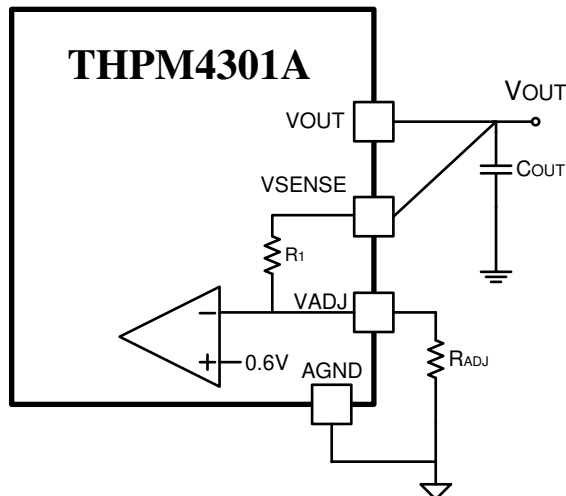

Fig. 15 Output Voltage Setting
VADJ (H4)	Output voltage adjustment pin . Connect a resistor, R _{ADJ} , between VADJ pin and AGND pin to set the desired output voltage, as shown in Fig. 15.
The output voltage of THPM4301A can be adjusted from 0.6V to 3.6V using an external resistor between VADJ pin and AGND pin, as shown in Fig. 15. The required resistor value R_{ADJ} can be calculated using equation (1).
where $R_1 = 20k\Omega$ and V_o is the desired output voltage in Volts. For best set-point accuracy, it is recommended to use a 0.1% tolerance resistor. [Note: R_1 is internal to the module as shown in Fig. 15].